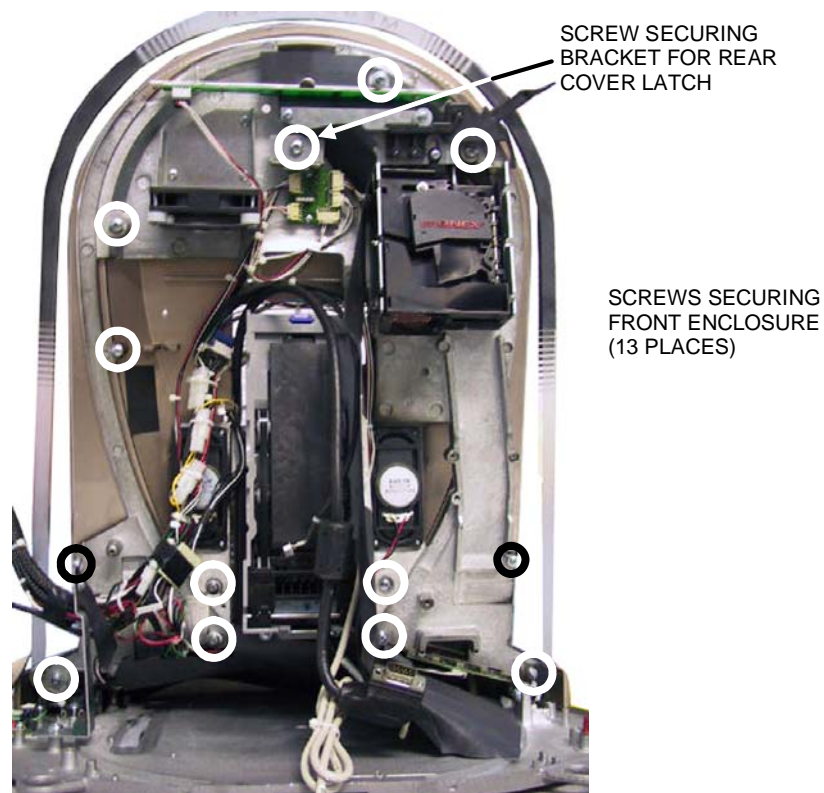

FIGURE 16 - REAR VIEW OF MEGATOUCH AURORA
18. Remove the 13 screws that secure the front enclosure and halo. Please see Figure 16 for reference.
27. After the front enclosure is fully seated, replace all 13 of the screws (along with their washers) that secure the front enclosure and the halo. Please refer to Figure 16 for screw locations.
NOTE: Be sure that when you resecure the screw that holds the rear cover bracket latch, that the latch is facing down. See Figure 16 for screw location.